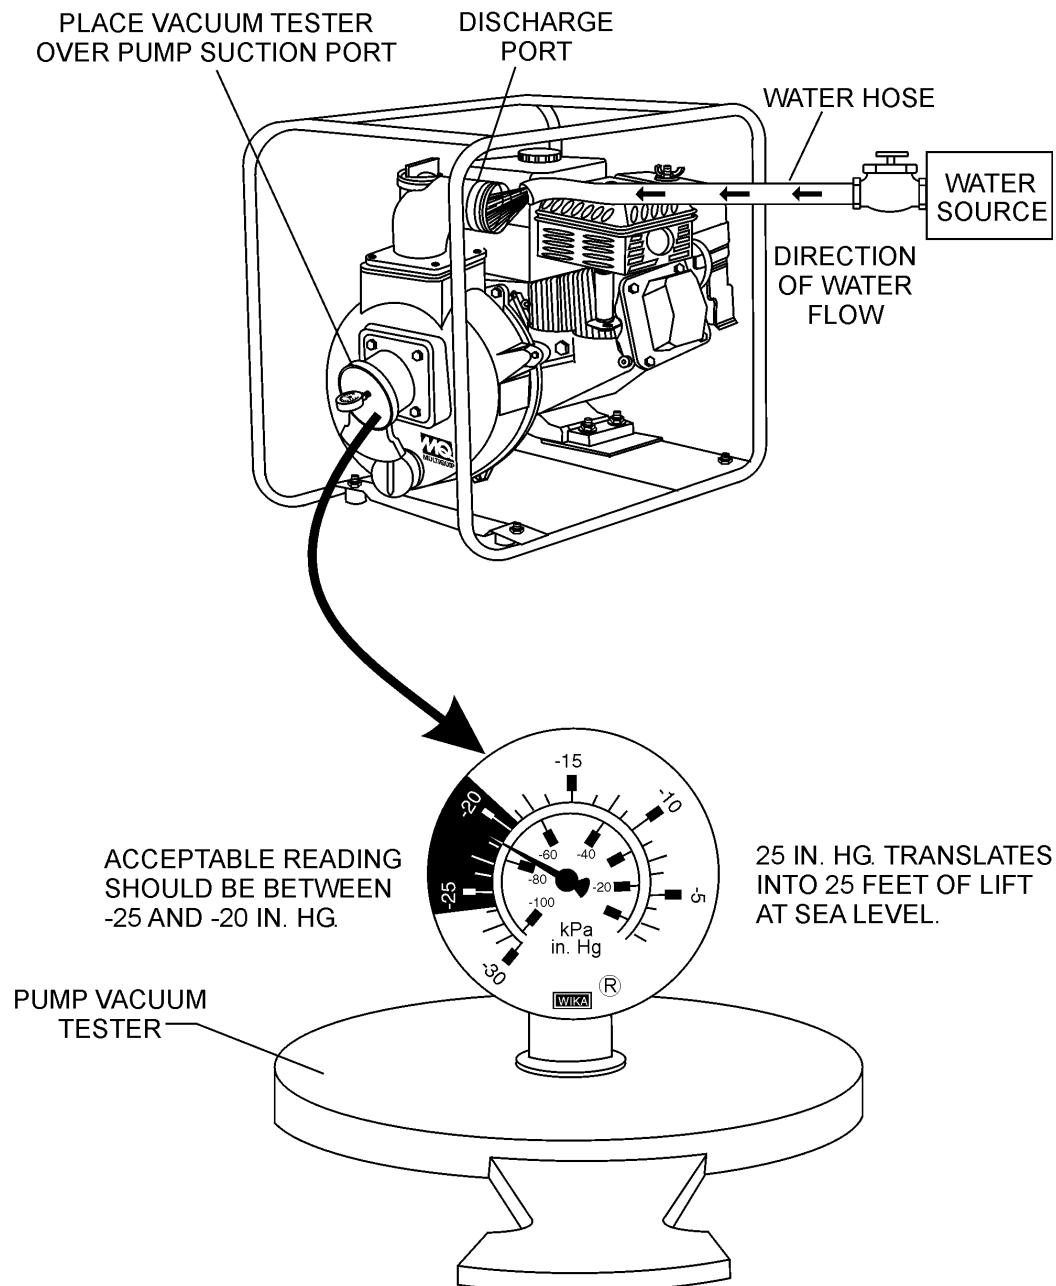

Figure 18. Pump Vacuum Tester
3. As shown in Figure 18, place a water hose inside the discharge opening of the pump, and turn on the water. This flow of water into the discharge opening will **prevent** the pump from running dry.
4. Place the Pump Vacuum Tester (P/N 7000030) over the pump suction (inlet) opening (See Figure 18) with the vacuum gauge facing upwards. It may be necessary to apply a small amount of water around the rubber seal of the vacuum tester to make a good suction fit.